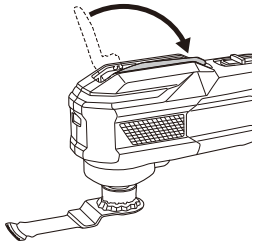

Fig. 11
- (5) Push down the lever. (Fig. 11)